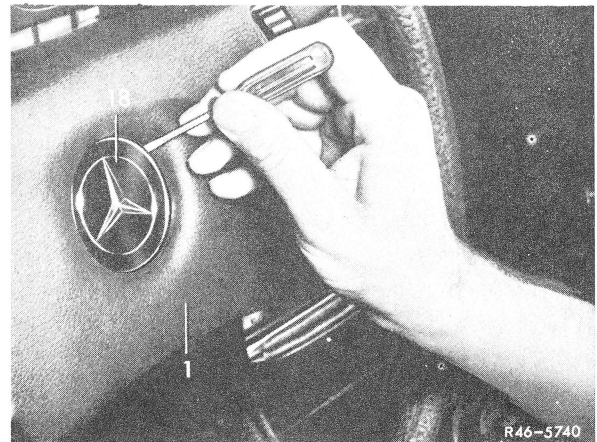

Fig. 3
1 Carefully lift Company symbol (18) from steering wheel (1) with a small screw-driver (Fig. 3).